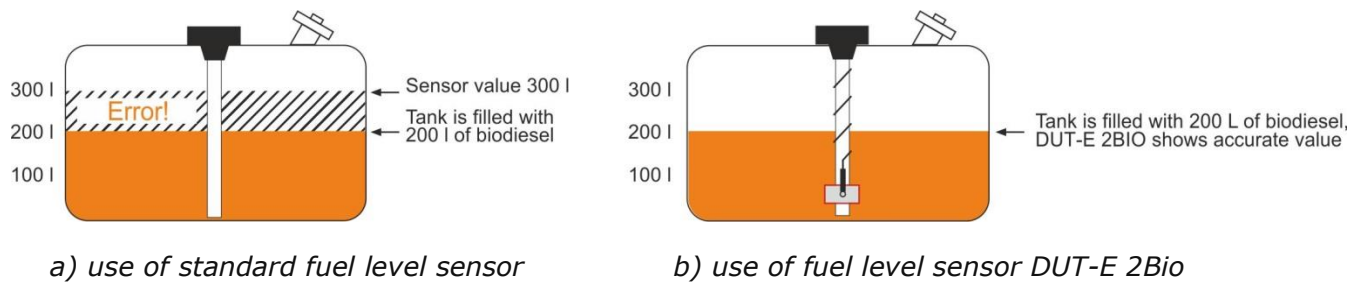

Figure 3 — Illustration of specifics of fuel volume measurement in tank of Vehicle when switching from regular diesel to biodiesel
Example: When fuel is changed from diesel to biodiesel standard fuel level sensor shows significantly higher fuel volume in the tank (up to 30 %) (see figure 3 a). Fuel level sensor DUT-E 2Bio shows real fuel volume in the tank even if the fuel in the tank is changed from diesel to biodiesel (see figure 3 b).
1) **DUT-E 2Bio** is used as an additional sensor for fuel monitoring within Telematics systems on Vehicles which are periodically refueled with different types/sorts of fuel (see figure 3).